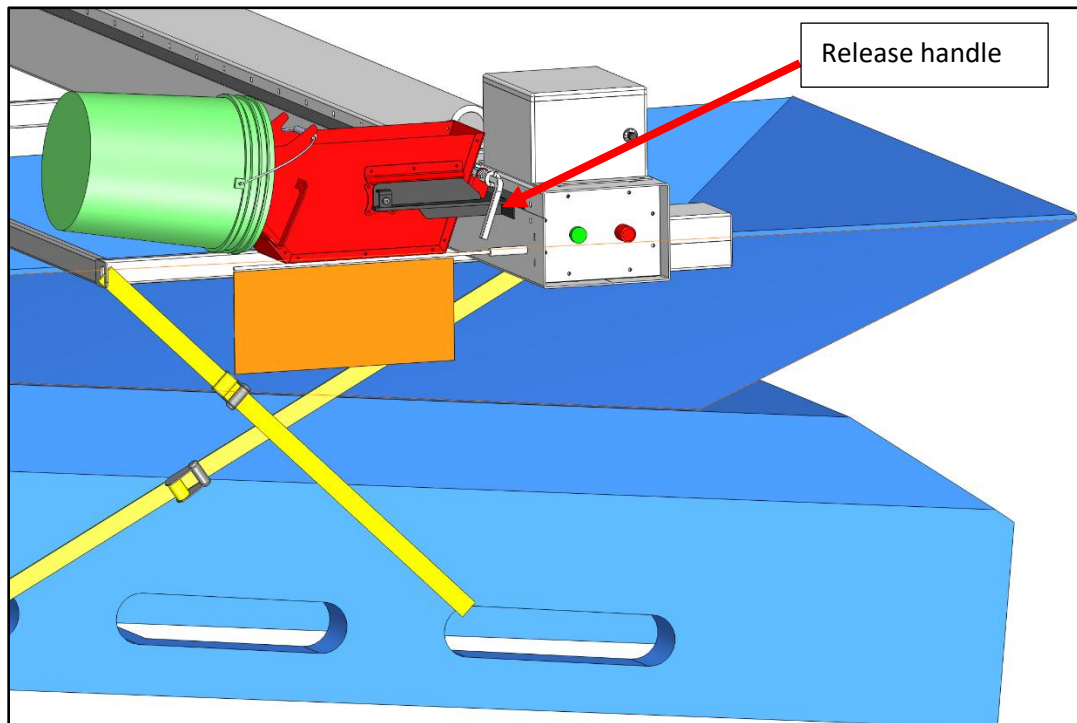
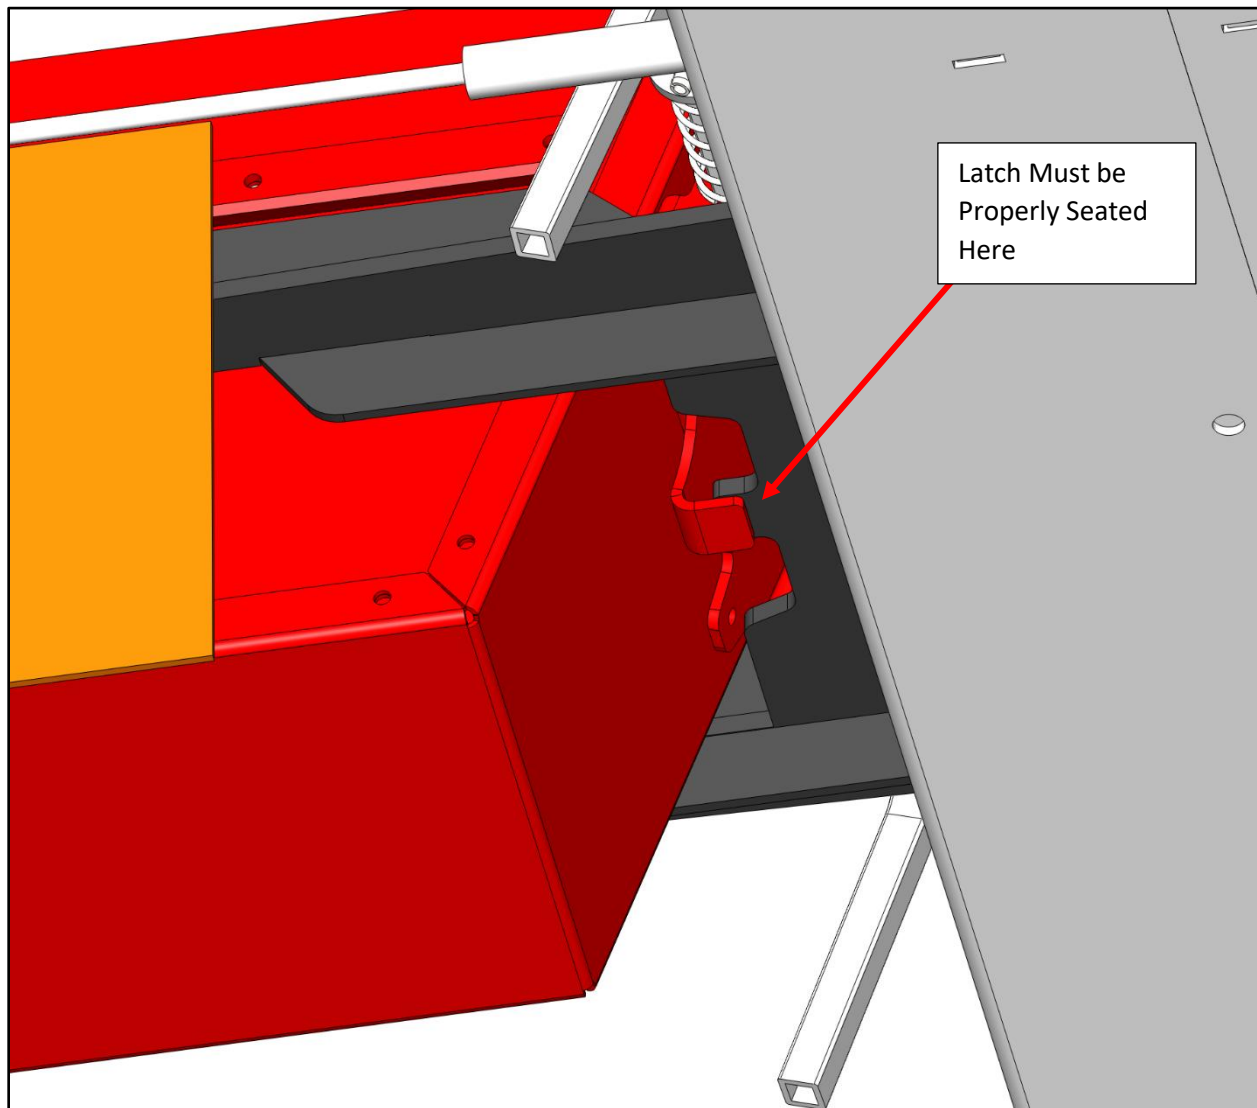

Figure 11 – Sample pail hooked onto tabs on the bucket (red). Release handle shown.
Figure 15 – Detail of the latch seating location, under the cart.
- Inspect the bucket prior to taking a sample and dump it out if any material is present. Also, ensure that the latch mechanism is properly seated so that the bucket does not come loose during the taking of a sample, see Figure 15. See Figures 11 and 12, and ensure the bucket is fully secured in the top position before operating the sampler.